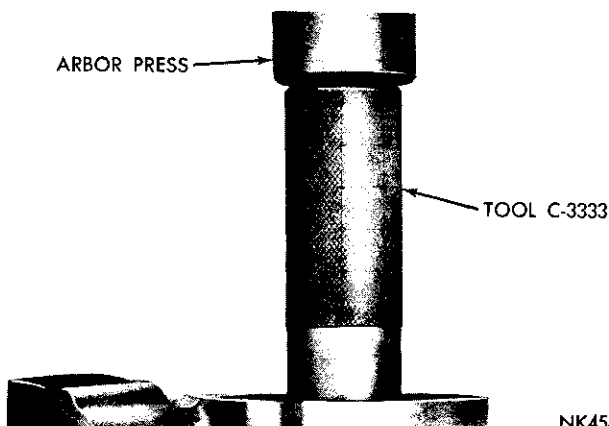

Fig. 9—Pressing Inner Bearing Into Housing
(17) Inspect the cross shaft for wear and check fit of the shaft in the housing bearings. Inspect the fit of the shaft pilot in its housing bearing in the cover. Make sure the wormshaft has not been bent or otherwise damaged.
(18) The cross shaft and wormshaft oil seals should be replaced when the unit is reconditioned.
(19) Install the cross shaft outer needle bearing by placing the bearing on end of Tool C-3333 with the adapter ring. Press the bearing into the housing to $\frac{1}{2}$ inch below the end of the bore to provide space for the oil seal.
(20) Install the inner needle bearing by placing bearing on Tool C-3333 (Fig. 9). Press the bearing into the inside end of the housing bore flush with the inside end of the bore surface.